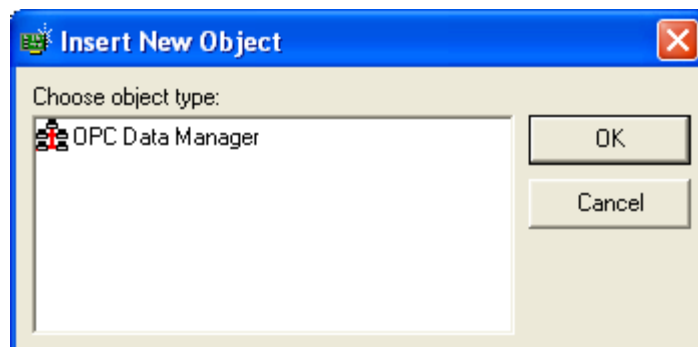

Figure 52 - Insert New Object Window
The **Insert New Object** window (Figure 52) displays a different set of options depending on the type of object selected and the types of objects already configured under it.
2. The **Insert New Object** window (Figure 52) appears.